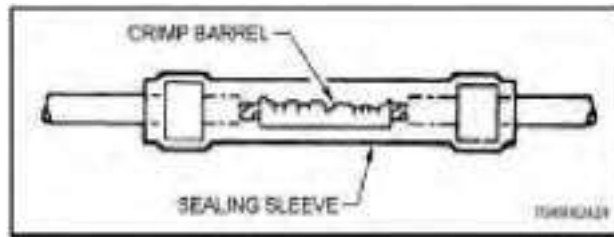

Figure 219
17. Center the Sealing Sleeves over the splices as shown in Figure 219 and heat, using the heat gun, until the sleeve recovers and the sealing inserts melt and flow along the wire.